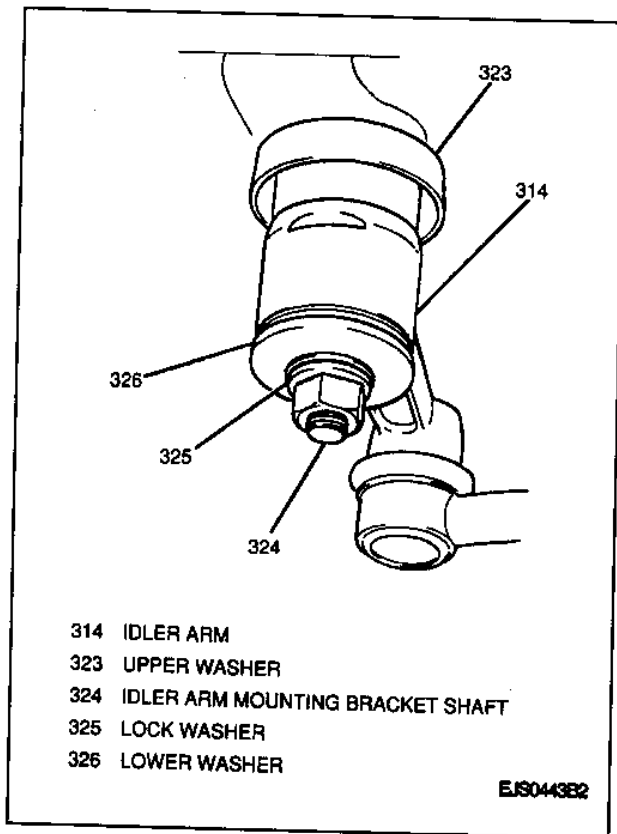

Figure 14—Idler Arm Mounting Bracket Shaft
1. Upper washer, idler arm and two lower washers to mounting bracket shaft; secure with nut (Figure 14).